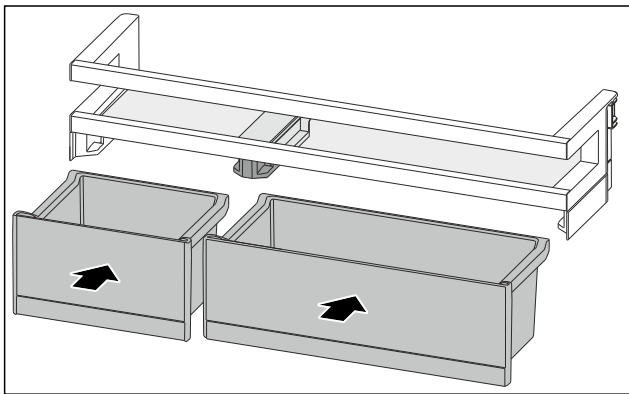

Fig. 190
- ▶ Insert the VarioBoxes in reverse order. (see Fig. 190)